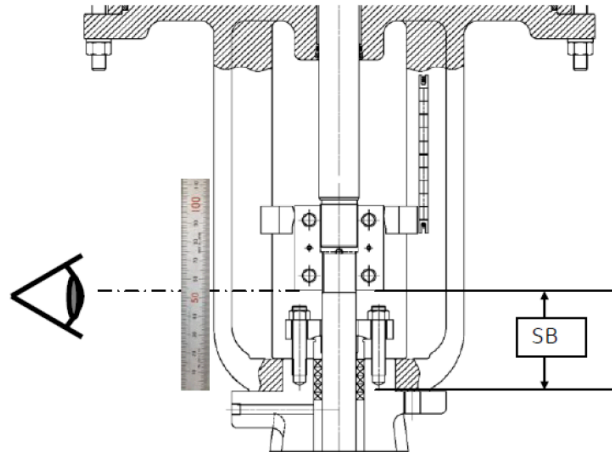

Figure 1 - Sighting the Split Clamp
5. Position the Split Clamp with the Split Clamp to Bonnet (SB) gap as shown in Table 3. If the Split Clamp does not properly engage with both stems, slightly extend the actuator stem until alignment and engagement is achieved (Figure 1).